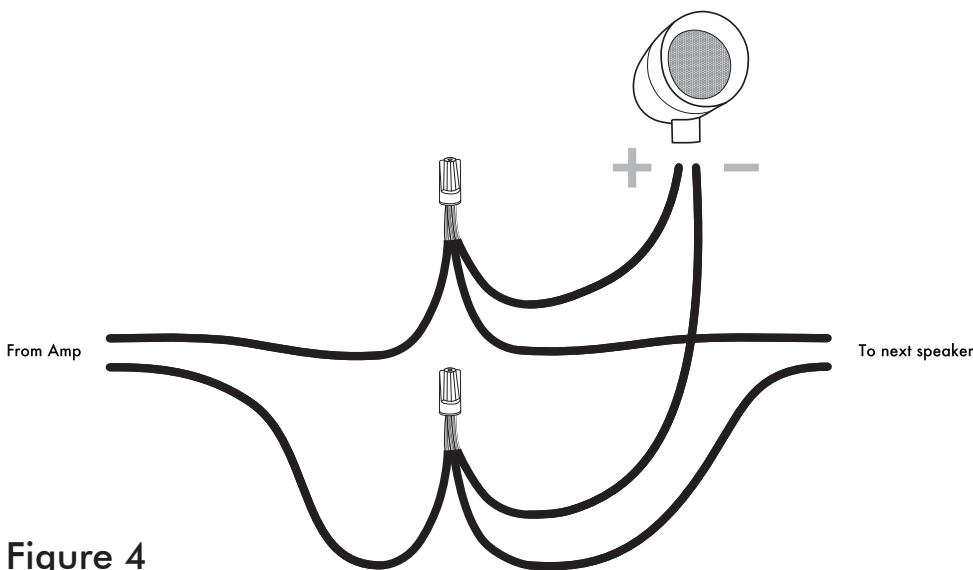

Figure 4
- Secure the three wires together using the provided Silicone Filled Wire Nuts. (See Figure 4.)
After all satellites and subwoofer connections are completed, connect the wires to your receiver or amplifier. See Figure 2 (on page 3) & Figure 4 for reference.